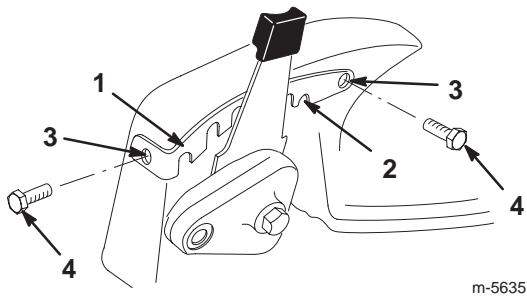

Figure 2
- Position each front wear plate as shown in Figure 2, aligning the notches in the wear plate with the notches in the lawn mower housing.
6. Use each front wear plate as a template to locate and mark the two mounting holes on the lawn mower housing (Fig. 2).
8. Secure each front wear plate with two 1/4–20 x 0.500 thread-forming bolts (Fig. 2).
7. Secure each rear wear plate with two 1/4–20 x 0.750 thread-forming bolts (Fig. 2).